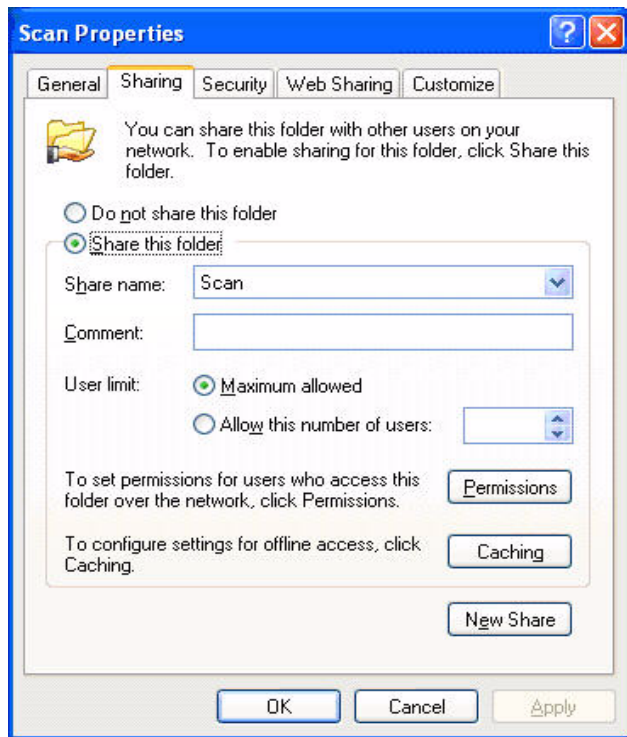

Figure 4 (Scan Properties (Sharing))
4. Select the **Sharing** Tab, select the **Share this folder** radio button and click the **Permissions** button. (If the Sharing tab is not displayed, go to 10) (Figure 4)